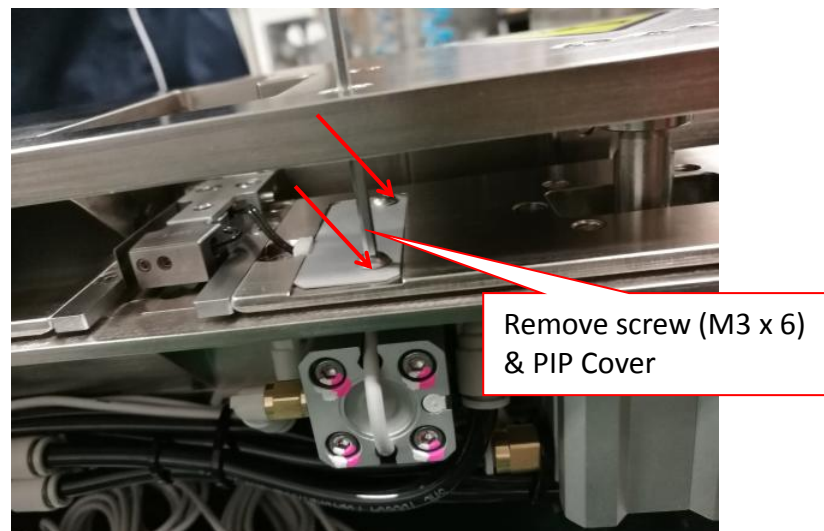

Figure 4 PIP Cover removal
5. Remove 2 x screws (M3 x 6) & PIP Cover as shown in Figure 4.